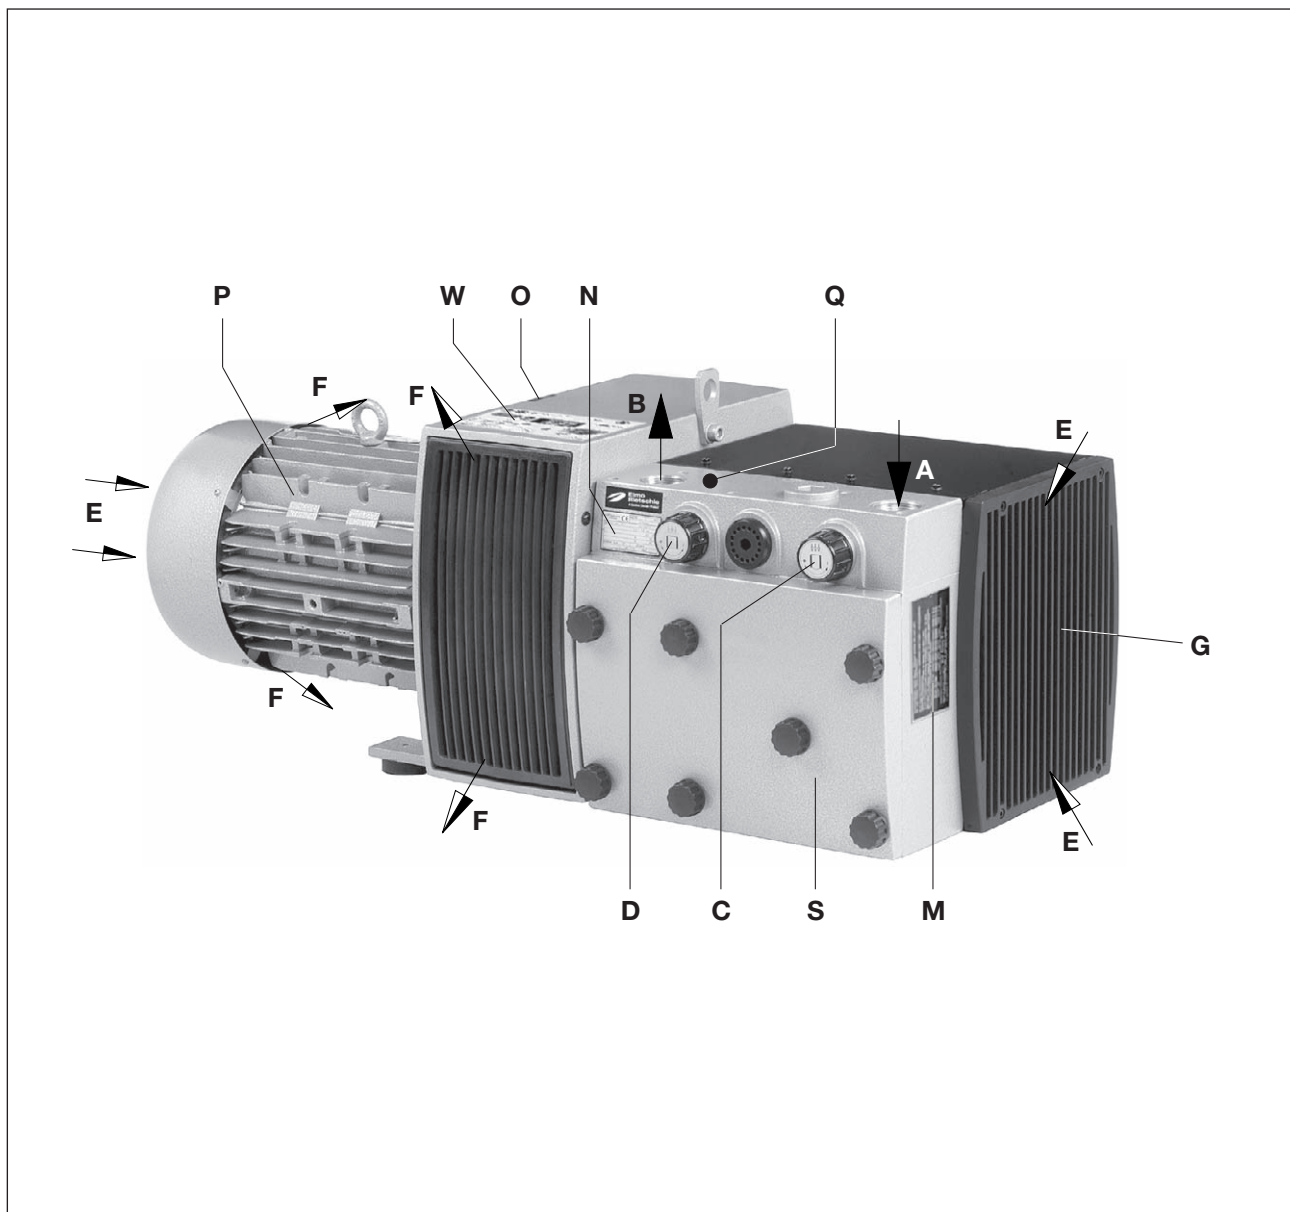

Fig. 2 Pressure vacuum pump V-KTR 100 / V-KTR 140
All models have nominal capacities of 100 and 140 m³/hr operating at 50 cycles. The pressure and vacuum limits (bar) are indicated on the data plate (Fig. 2/N). The tables showing capacity against pressure and vacuum can be seen in data sheet D 461.
The filter housing (Fig. 2/S) should be easily accessible.
The cooling air inlets (Fig. 2/E) and the cooling air outlets (Fig. 2/F) must be at least 30 cm away from adjacent walls. Cooling air coming out must not be sucked in again..
or maintenance work there must be a minimum of 40 cm in front of the filter housing (Fig. 2/S) and the inlet grating (Fig. 2/G).
- a) Vacuum connection at (Fig. 2/A) and pressure connection at (Fig. 2/B).
The required pressure and vacuum ranges can be set with the pressure regulating valve (Fig. 2/D) and the vacuum regulating valve (Fig. 2/C) as shown on the symbol plate attached to the rotary knob.
- a) The motor's electrical data is given on the data plate (Fig. 2/N) or on the motor data plate. The motors comply with DIN EN 60034 and are in protection class IP 55 and insulation class F. The appropriate connection diagram is located in the motor's terminal box (not for the plug connection version). Compare the motor data with the data of the existing mains network (current type, voltage, network frequency, permitted current value).
When the machine is at operating temperature the surface temperatures on the components (Fig. 2/ Q) may go above 70°C. You must avoid touching the hot surfaces (marked with warning plates).
- ▷ The drive shaft direction of rotation is shown by the rotation direction arrow (Fig. 2/O) on the motor flange.